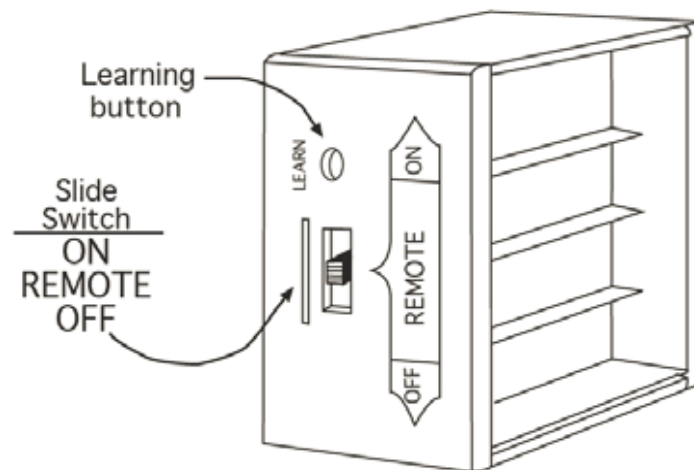

Figure 14.1
2. Locate the three-way switch on the receiver. **Figure 14.1**